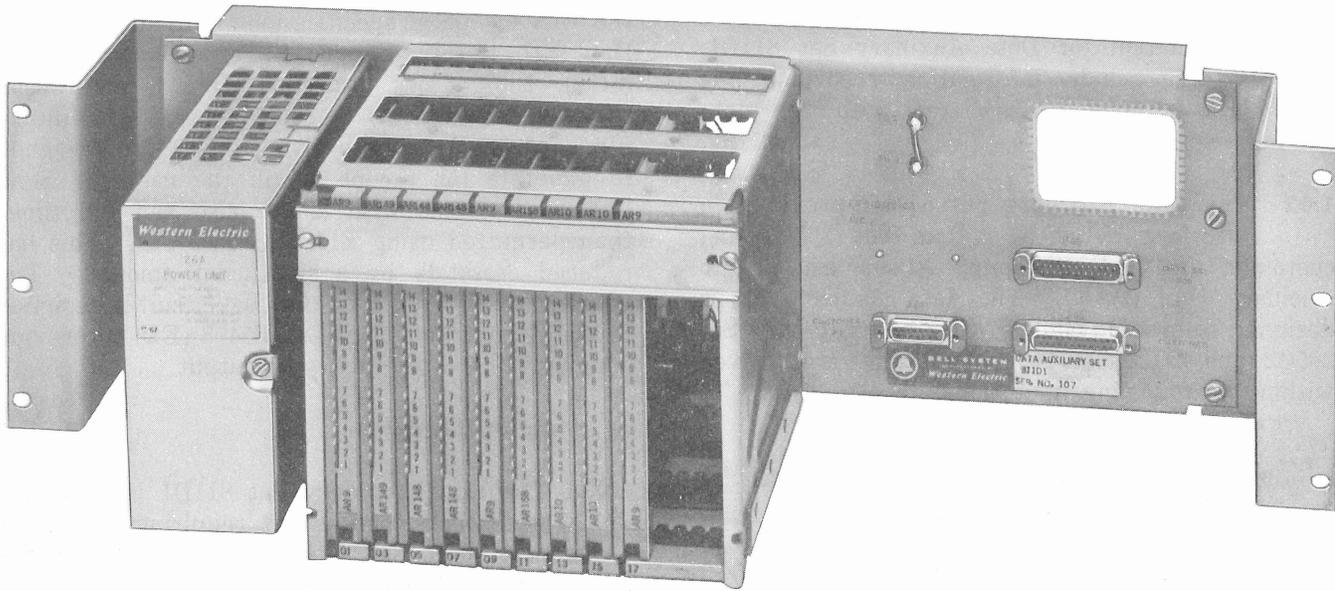

Fig. 1—Data Auxiliary Set 811D1, Front View
2.03 The Data Auxiliary Set 811D1 is a 23-inch wide rack-mounted set requiring six inches of vertical space and is approximately 9.5 inches deep. The front view of Data Auxiliary Set 811D1 is shown in Fig. 1.